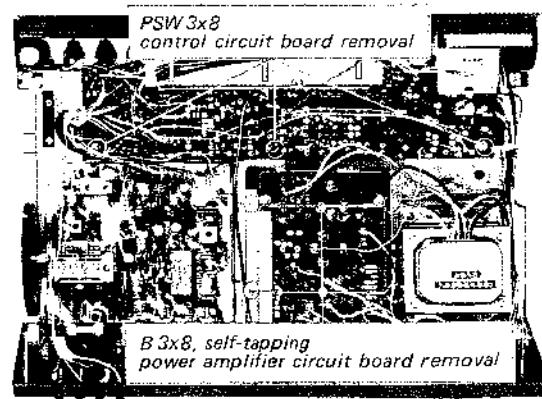

Fig. 2-13. Control and power amplifier circuit board removal
- Remove the three screws securing control circuit board to the chassis as shown in Fig. 2-13.
2. Remove the four self-tapping screws shown in Fig. 2-13.